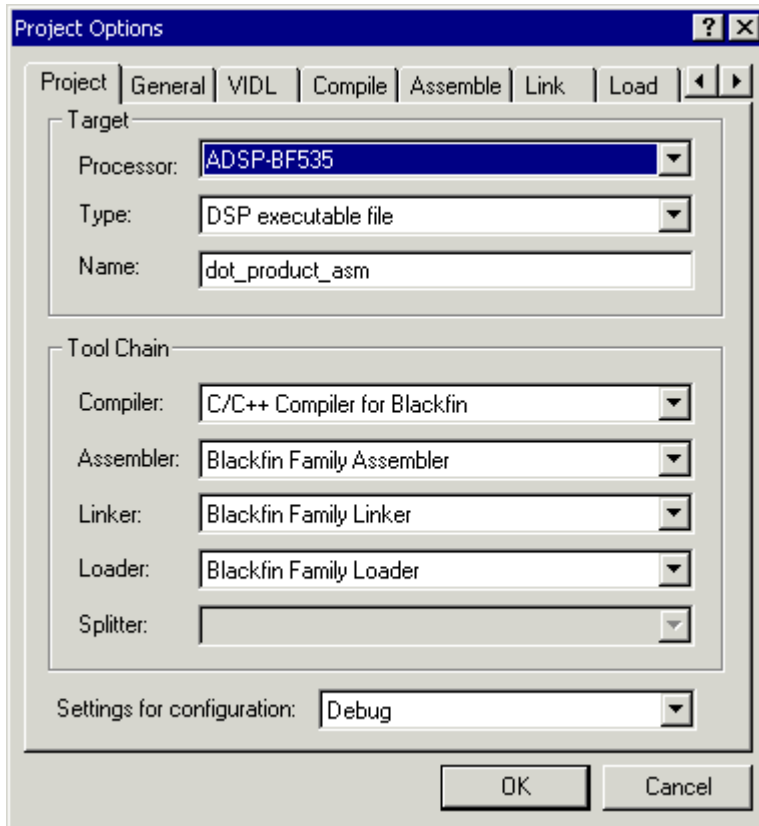

Figure 2-11. Project Options Dialog Box: Project Page
The **Project Options** dialog box (Figure 2-11) appears.
6. On the **Project** page (Figure 2-11 on page 2-18), specify the values shown in Table 2-3.